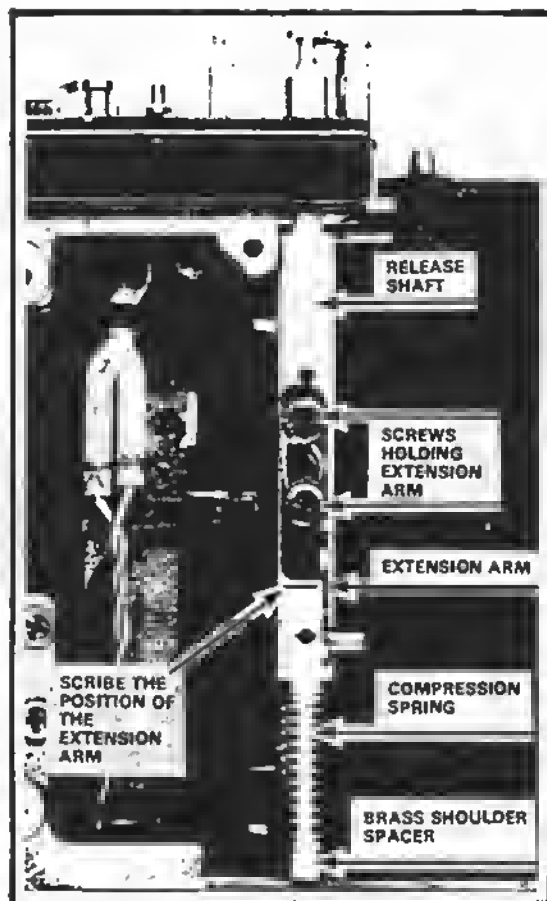
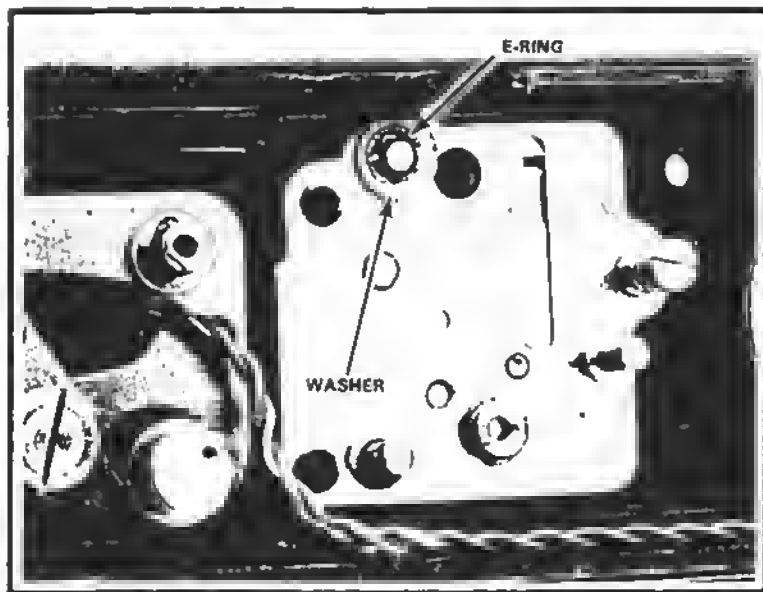

Figure 158
Figure 159
It's not absolutely necessary to remove the release shaft, Fig. 158. However, you'll find that removing and replacing the curtains will be a lot easier with the release shaft out of your way.
To remove the release shaft, you must take off the extension arm, Fig. 158. Remember, the extension arm releases the mirror latch on the mirror cage. But the extension arm has a sliding adjustment; after loosening the two screws, Fig. 158, you can slide the extension arm up or down.
Take out the two screws and lift off the extension arm. Then, remove the E-ring and the washer at the bottom of the release shaft, Fig. 159. Watch for two loose parts as you lift out the release shaft toward the top of the camera -- the compression spring and the brass shoulder spacer, Fig. 158, will be loose.
**REASSEMBLY:** Start the release shaft into its mechanism-plate hole from the top of the camera. Then, before seating the lower end of the release shaft, slip the compression spring onto the release shaft, Fig. 158. Replace the shoulder spacer with its smaller diameter passing into the camera-body hole. Finally, seat the lower end of the release shaft and replace the washer and E-ring, Fig. 159.